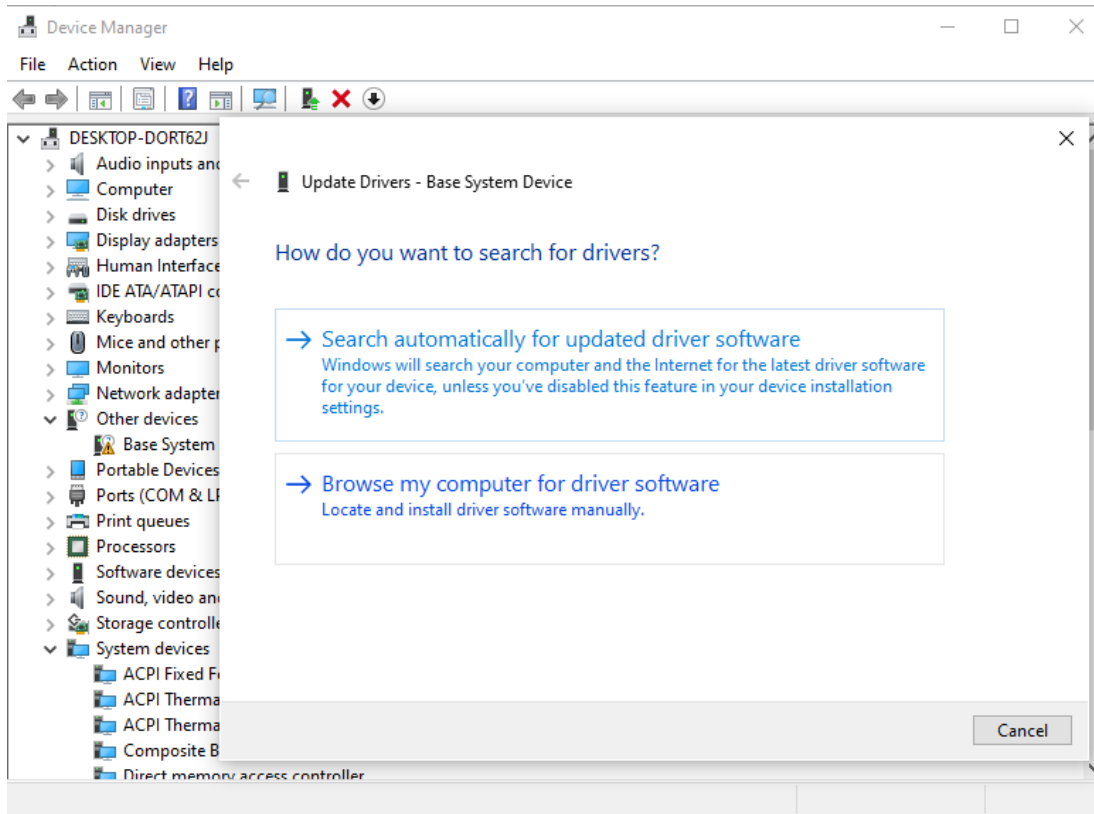

Figure 3.37. Update Driver Options
5. Select the **Browse my computer for driver software** option as shown in Figure 3.37.